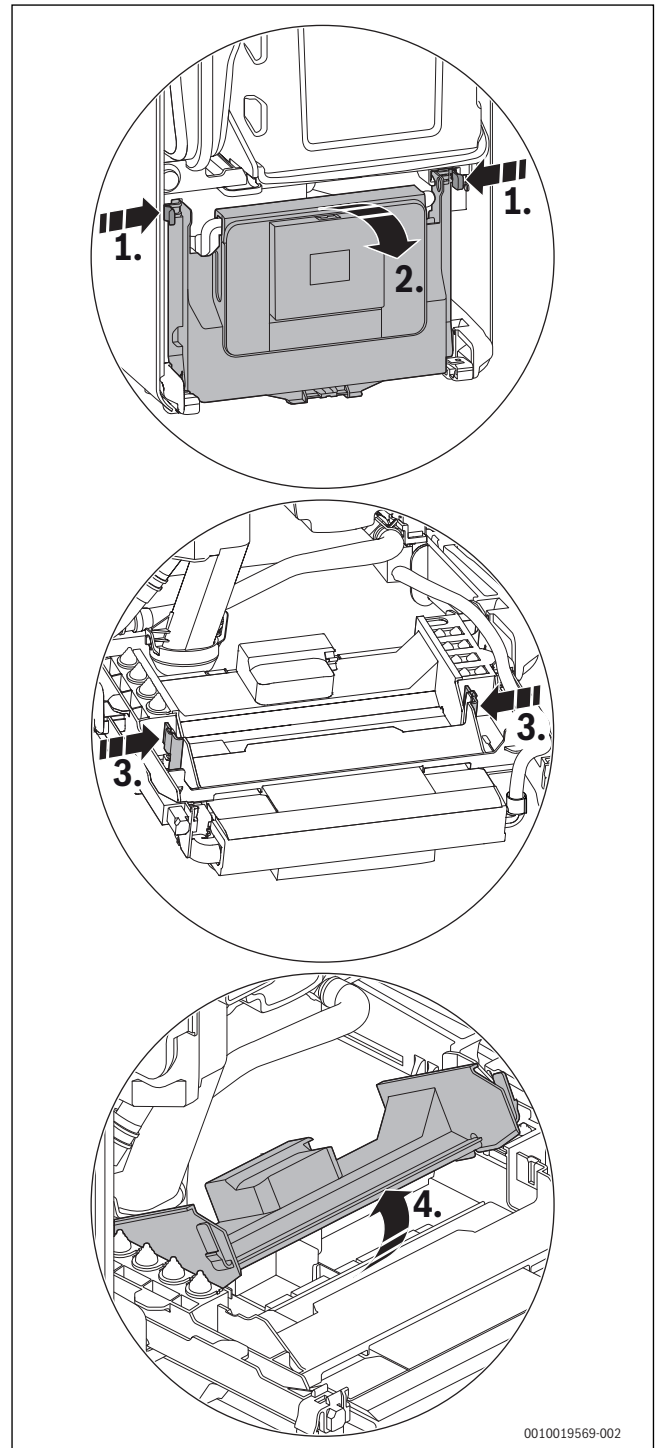

Fig. 54 Opening the cover
If the power cable is of insufficient length, accessing the connection terminal (→ Fig. 54)
- ▶ Flip down the control appliance (→ Fig. 54).